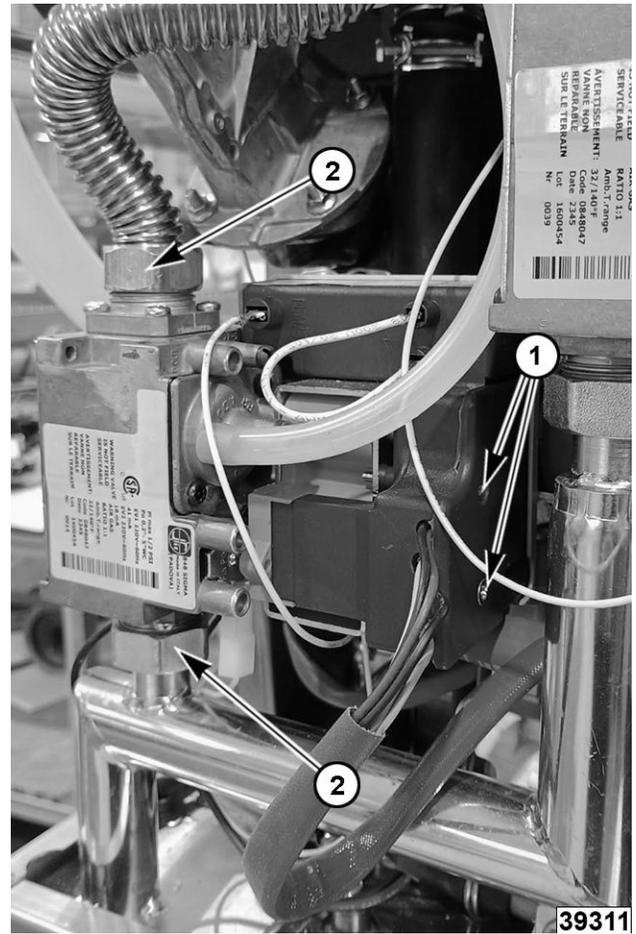

Fig. 102
BACK - STEAM GENERATOR GAS VALVE SHOWN IN Fig. 102
4. Remove ignition module mounting screw (1, Fig. 102) to separate from gas valve.